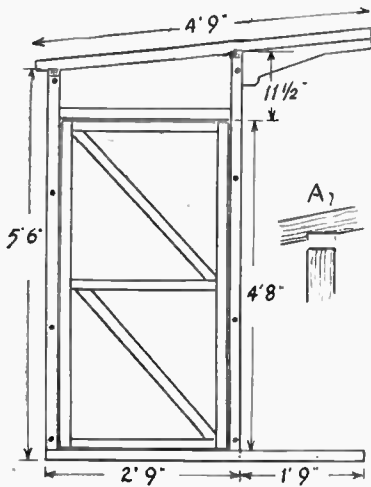
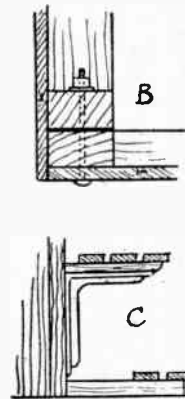

Fig. 1—The end frames
Fig. 3—Details of the way the frames are joined, and the seat arrangement
The end frames, Fig. 1, are made up from $1\frac{1}{2}$ ins. by 2ins. deal. Join up the verticals to the ground rails, then lay the roof timber across, and mark off the places where the verticals come, and here cut out notches, as in inset (A) for the verticals to 'sit' in. All joints are just butted and nailed together. It will be wise here to bore preliminary holes for the nails with a gimlet, to avoid splitting the wood. Nail the cross rail in
struction of these front and rear frames needs stressing here. The wood should be framed up so that the broad sides of the timber meet with the broad sides of the end frames, as at (B) in Fig. 3, as the whole four will be bolted together to make the shed portable. All frames should now be bolted together, the position of the bolts being indicated in Fig. 1. Bore the bolt holes first through the end frames, then place together and with the drill bit through the holes bored, complete the boring through the front and rear frames. This should make the framing quite firm.